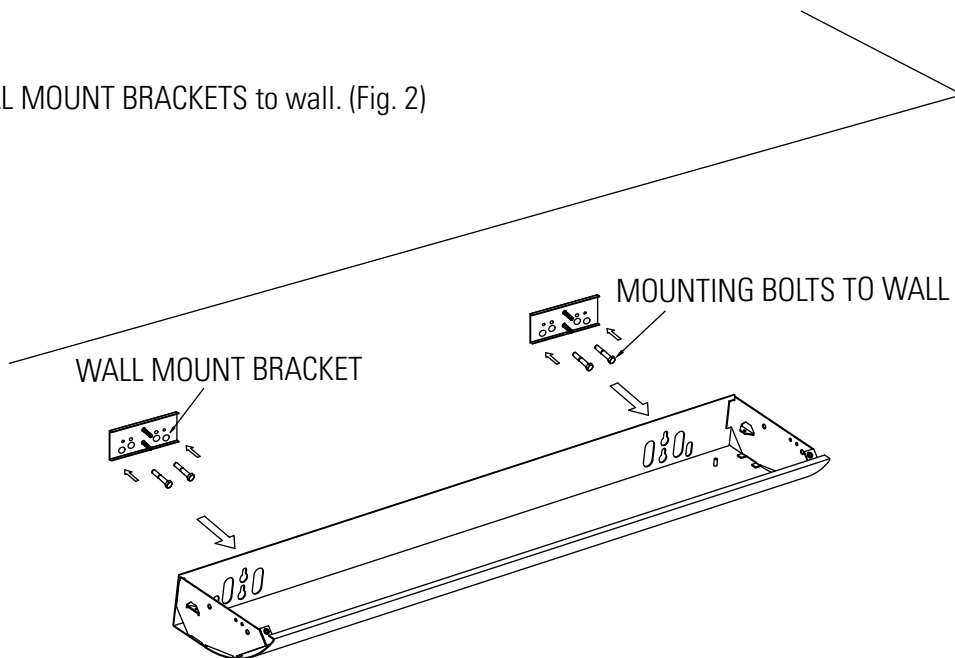

Figure 2
2. Attach WALL MOUNT BRACKETS to wall. (Fig. 2)
2. Attach MOUNTING BRACKETS to wall for next fixture. (Fig. 2)